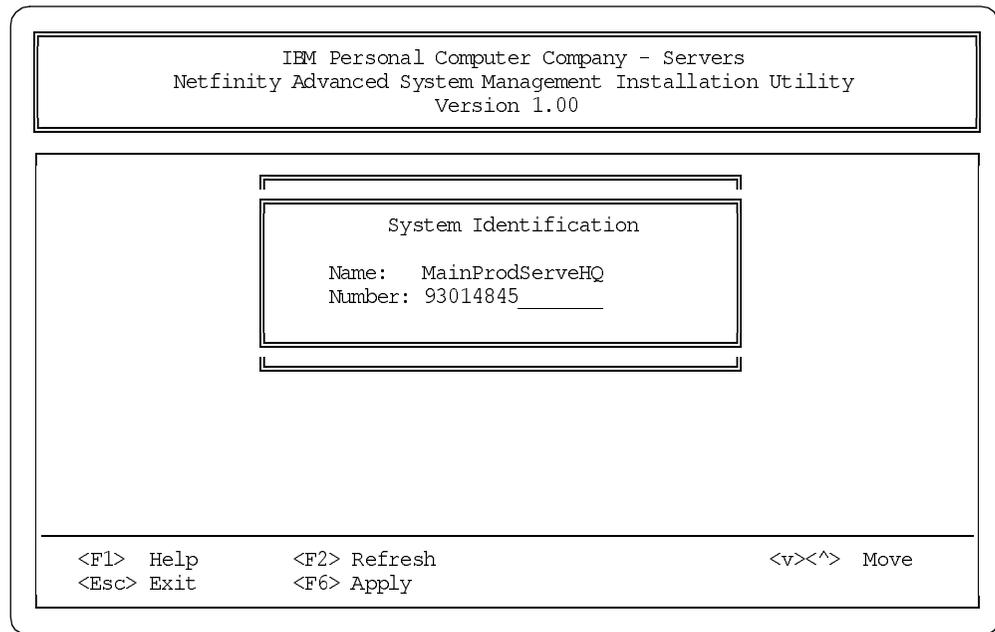

Figure 212. System Identification
4. Type in a name and number for the server as you did for the Netfinity 5000, as shown in Figure 212: